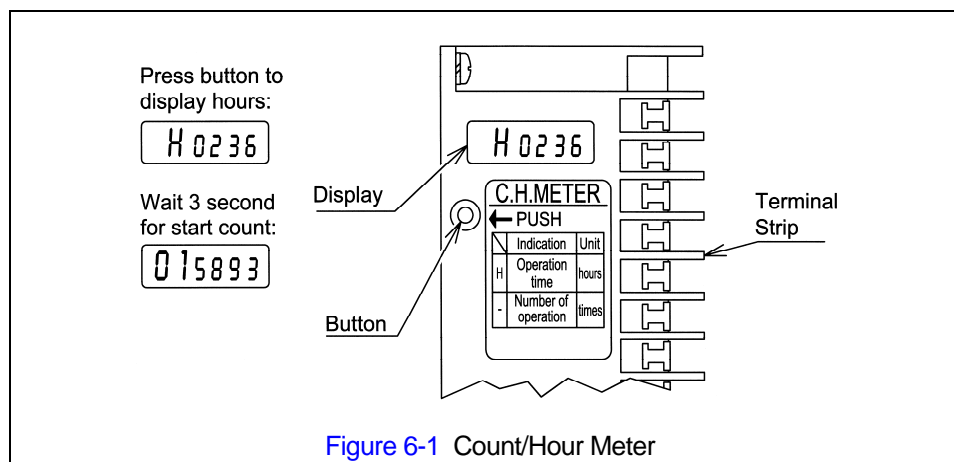

Figure 6-1 Count/Hour Meter
- 6.1.1 The Count/Hour (C/H) Meter located in on the electrical control panel records the hoist's on time and number of starts. To view the two values press the button on the C/H Meter one time. The display will first show an "H" and a 4 digit number which is the hoist's total on time (up and down) in hours. After 3 seconds the display will automatically change to a 6 digit number which is the number of starts of the hoist's down contactor. Refer to Figure 6-1.